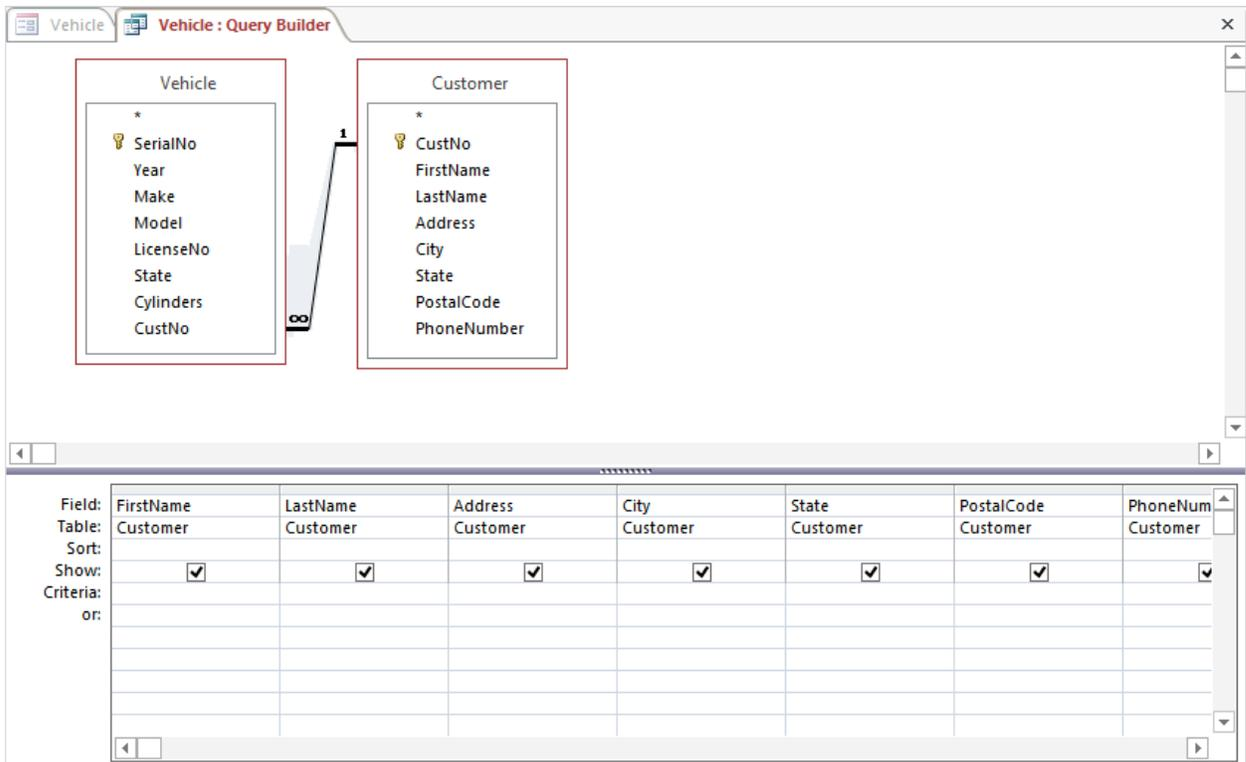

Figure 46: Query for the *Record Source* Property
- Create the Vehicle Form Record Source Query: Open the main form’s Property Sheet. In the *Record Source* property area, click the ellipsis (...) button to invoke the Query Builder. When it opens, you will see the Query Design window with the *Vehicle* table in the upper window. To add the *Customer* table, click **Design → Show Table** in the Query Setup group and add the *Customer* table. Close the Show Table window. Starting with the *Customer* table, drag all of the fields except for *CustNo* and all of the fields from the *Vehicle* table to the empty grid below (Figure 46). Close Query Design in the view pane. Now the *Record Source* property contains this query (Figure 47).